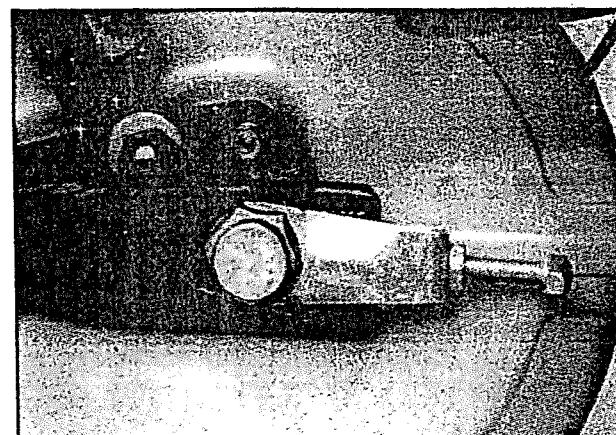

Fig 6.56
- Remove the chain cover bolts (5 nos), chain and rear sprocket drum nut (fig 6.56)